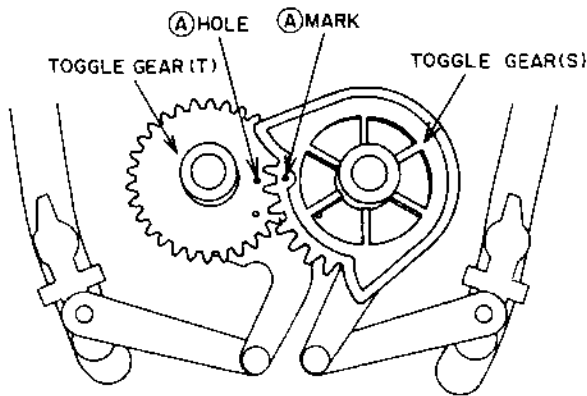

Fig. 4-10
- 1) Set the TOGGLE GEAR (T) and TOGGLE GEAR (S) to the unloaded position with your fingers. Align the Ⓐ mark on the TOGGLE GEAR (S) with the Ⓐ hole of the TOGGLE GEAR (T) as shown in Fig.4-10.